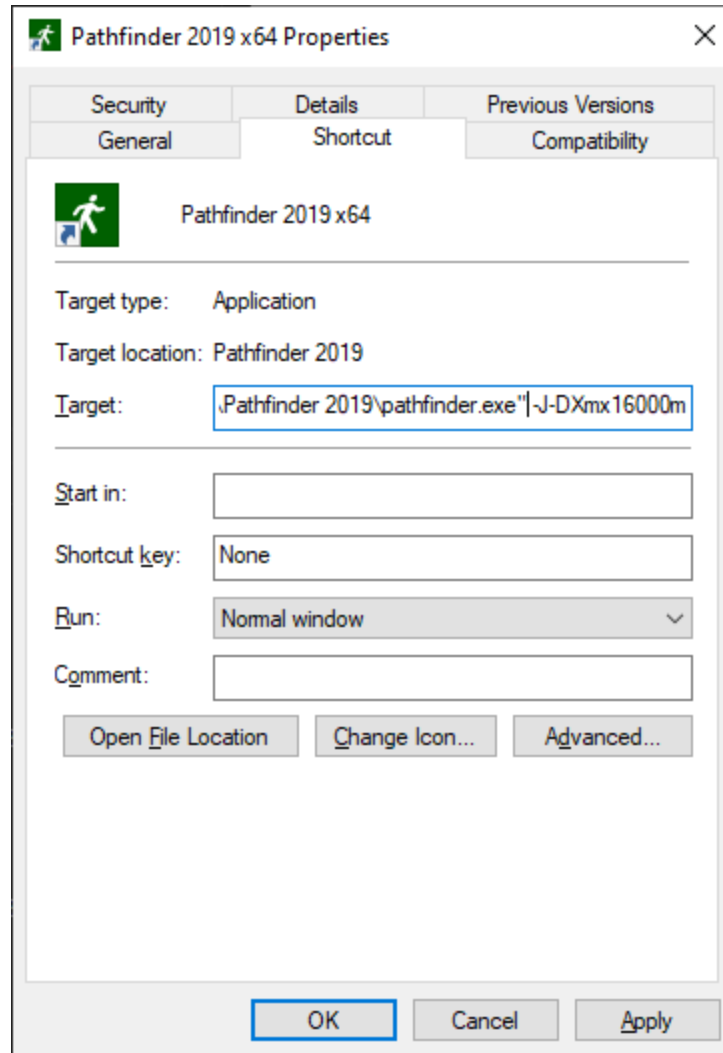

Figure 164. Example Shortcut Dialog
4. At the end of the **Target** field, type a space on the keyboard and then `-J-DXmx16000m`. The shortcut dialog will look similar to Figure 164.